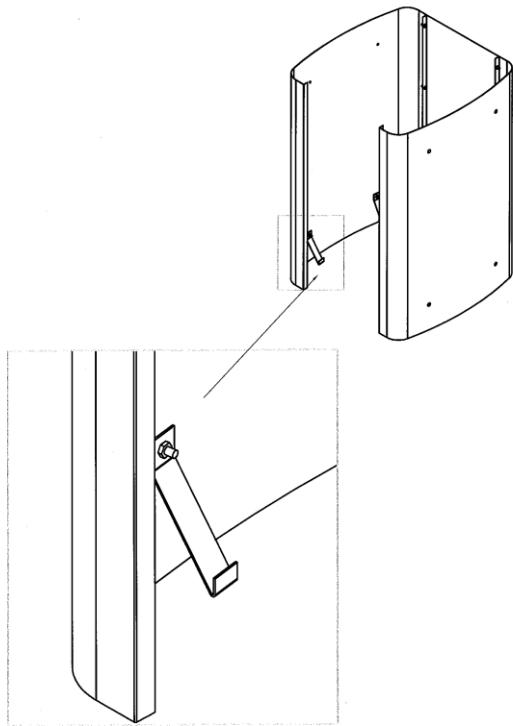

FIG 1
- Fasten the sides on the back wall using the screws. FIG 1
- Fasten the lower mounting brackets (4 pcs) into the lowest holes of the side plates. FIG 1